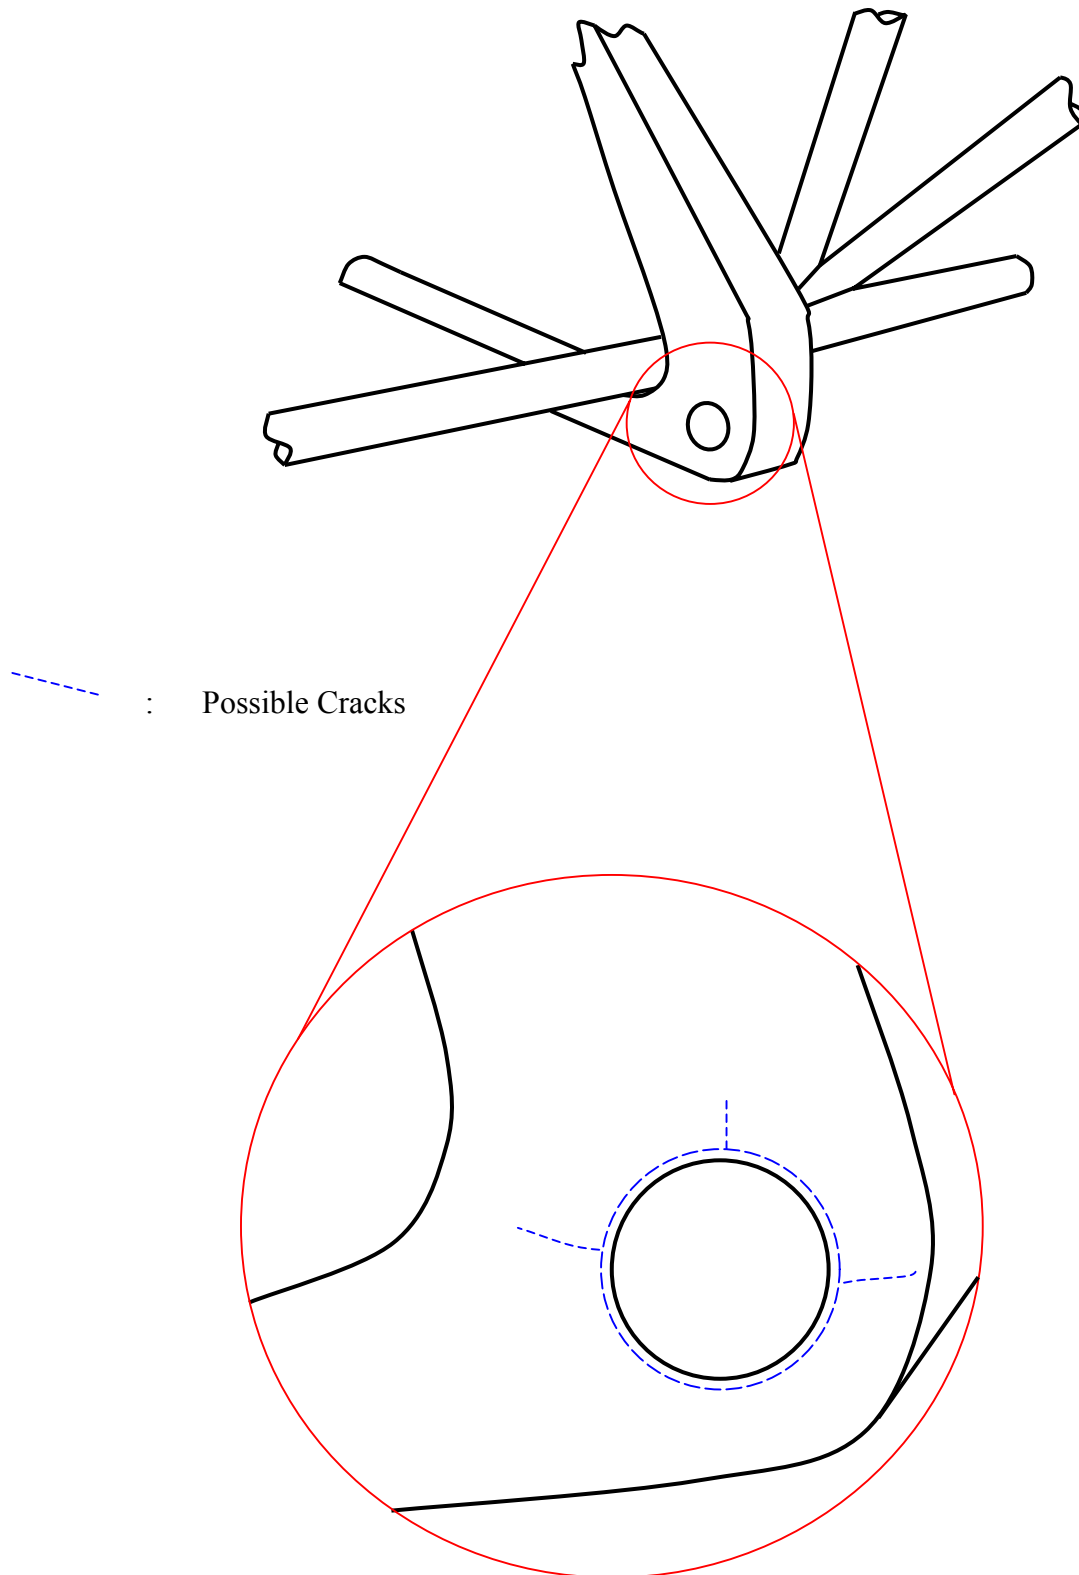

Figure 1: Possible crack locations at the main landing gear mounting brackets
5. Inspect the bushings of the fuselage landing gear attachment fittings for damage. The circular welding connecting the bushing to the bracket is suspected to show first signs of hairline cracks. From here, cracks in the radial direction could be initiated. If necessary, remove paint at suspected areas and use dye penetrant check, refer to AC 43.13-1B, Chapter 5, Section 5. Visually check for cracks at the bracket locations indicated by dotted lines in Figure 1. Perform this on both sides of the front and rear brackets on both sides of the aircraft (i.e. 8 locations).